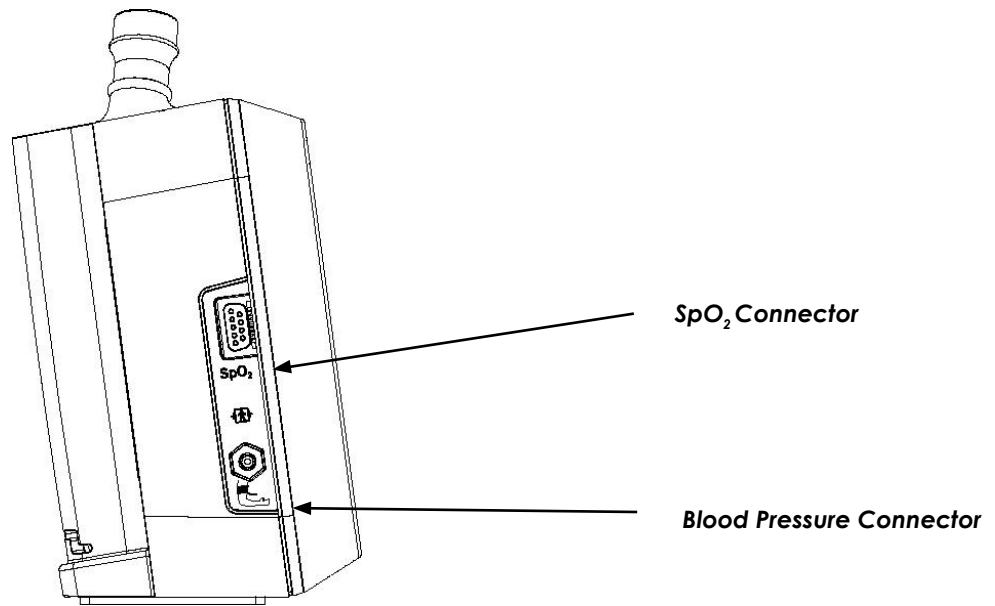

Figure 2
2. Attach the blood pressure hose to the connector located on the left side of the device (see **Figure 2**). Attach the appropriate size blood pressure cuff to the fitting at the end of the blood pressure hose.
3. Connect the SpO₂ sensor* to the left side of the device (see **Figure 2**). If desired, connect the included SpO₂ extender cable to the sensor. Next, attach the SpO₂ extender cable to the SpO₂ connector on the left side of the device (see **Figure 2**).